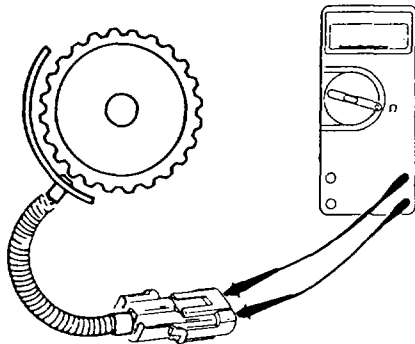

FIG. 10
**Correction:** Disconnect Weather Pack connector from Jacobs® control module. Measure the resistance between the two wires from the tach sender (Fig. 10). An acceptable reading will be from 50 to 300 ohms. The Motorola 7EP2033 or Volvo/White 13603-0013 will read between 245-255 ohms. Readings outside this range indicate a short circuit or broken wires.